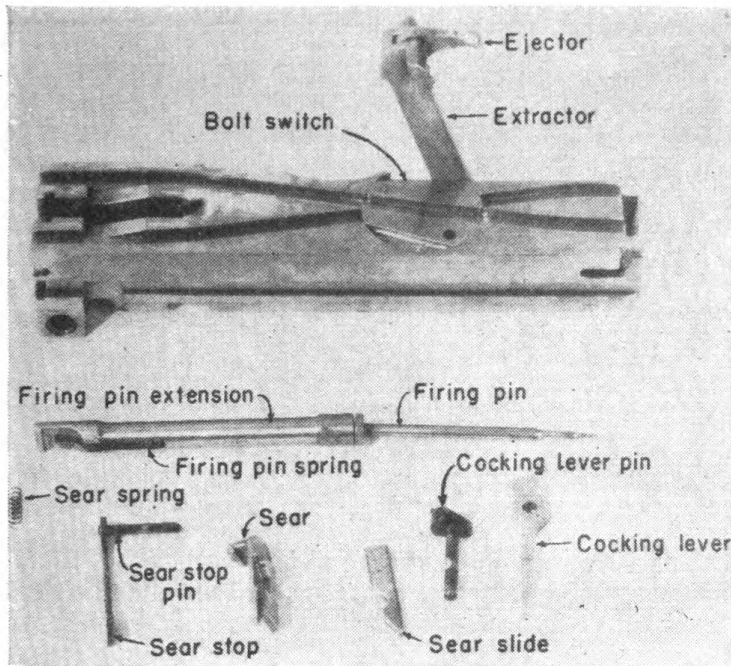

FIGURE 38.—Bolt group.
Q. Identify the component parts of the bolt group. A. See figure 38.
(2) *Disassembly and assembly.*—*Q.* Explain how to disassemble the bolt. *A.* See figure 38.